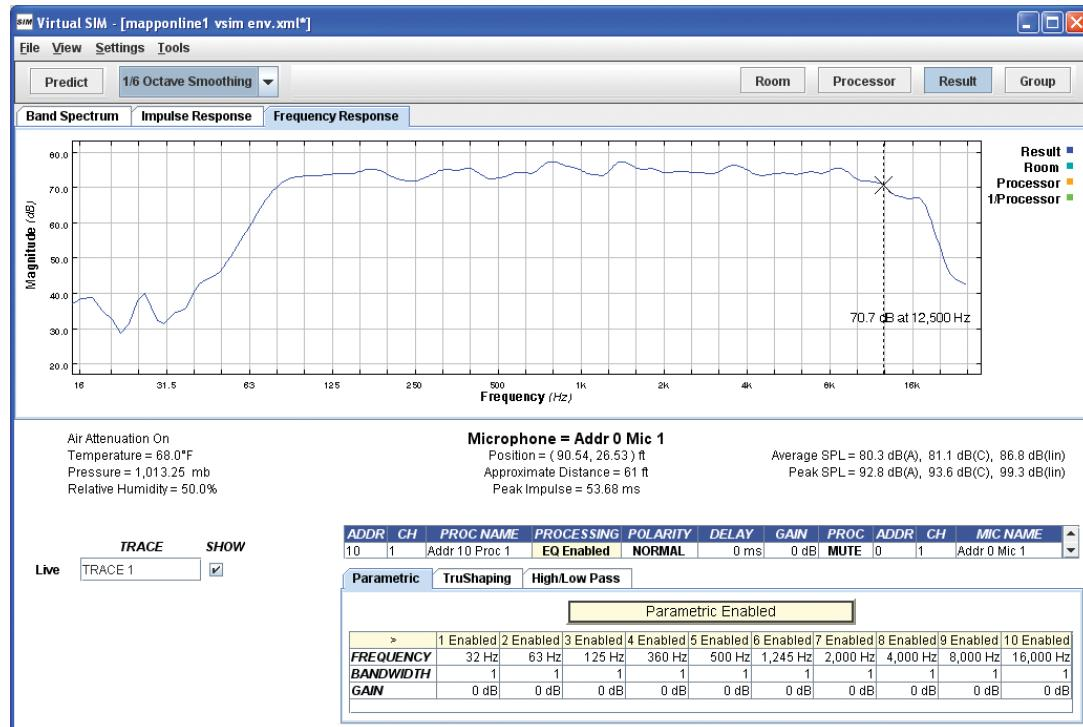

Figure 53. Virtual SIM trace with default environmental settings
5. Adjust the Temperature, Pressure and Relative Humidity sliders to taste. Using Virtual SIM, compare two predictions using different settings, as shown in Figures 53 and 54. You will see some differences in the higher frequency response. The Natural Environment can stay open during this procedure.